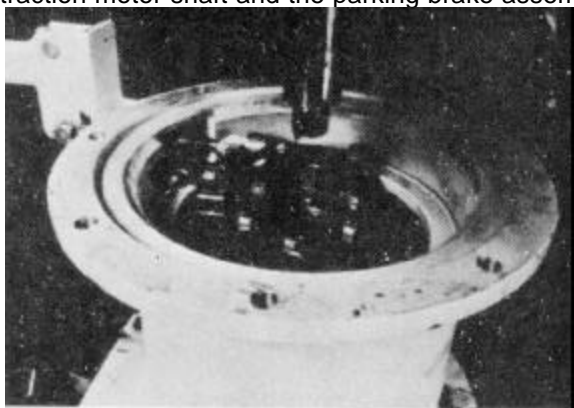

Figure 5-38
2. Use a small pry bar to separate the traction motor pilot from the drive motor support, pull the motor straight backward to free the splined armature shaft from the parking brake and coupling assembly. Fig. 5-38 shows the traction motor shaft and the parking brake assembly.